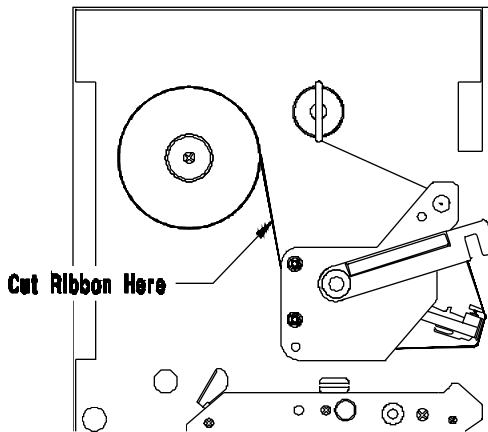

Figure 3-8 Ribbon Cutting Point
- 1 Cut the ribbon at the point shown in Figure 3-8.